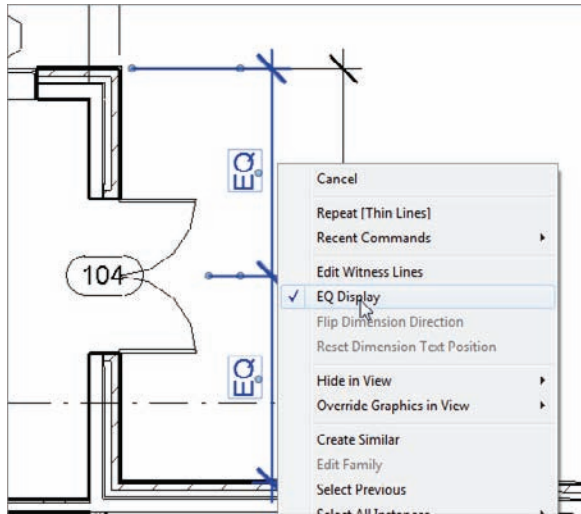

FIGURE 5.9 Toggle off the EQ display.
3. Choose EQ Display, as shown in Figure 5.9.